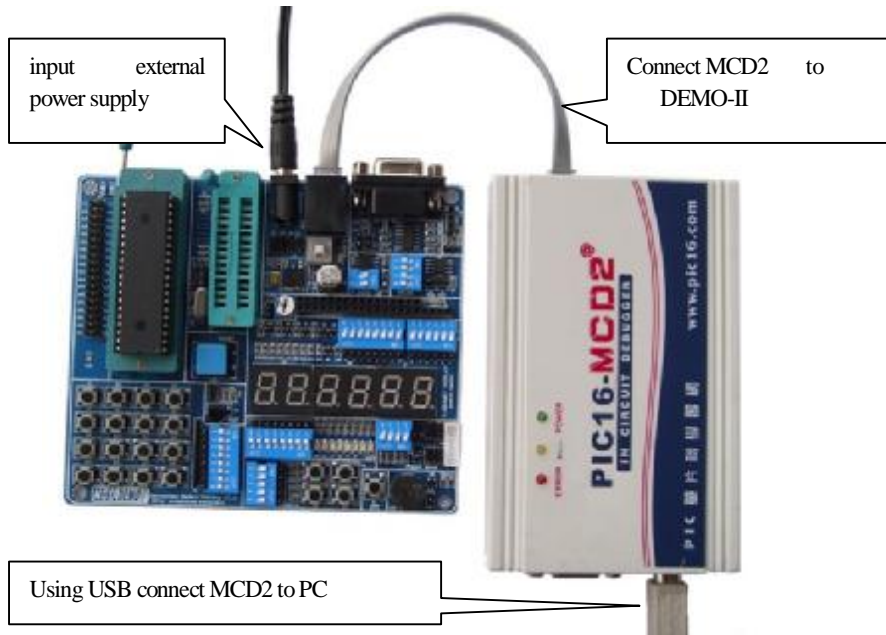

Figure 3-2 MCD2 and DEMO-II connection
The connection between MCD2 and DEMO-II is shown in Figure 3-2.
- 1) Connect MCD2, PC and user objective board according to Figure 3-2.